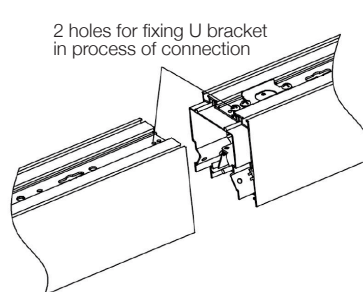

Fig. 6.8
5. Screw the end plates from the hole on plate A (flat top) to the hole on plate B (round top). (Fig. 6.8 & 6.9)